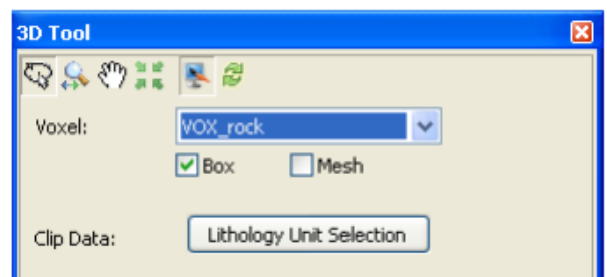

Figure 1.95. –3D Tool Lithology voxel
- **Clip Data** - depending on the voxel type, you will have the option to clip the Voxel data range using the slider bar or data boxes or select the **[Lithology Unit Selection]** button, fig. 1.95.